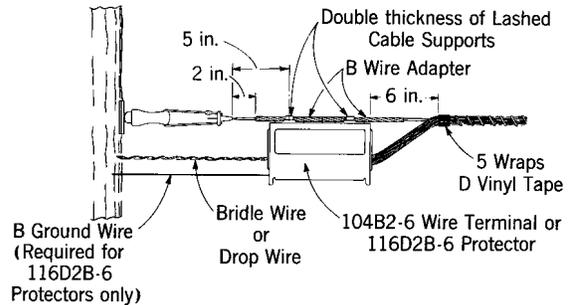

Fig. 7 - Multiple Line Wire Deadend
3.01 The 104B2-6 Wire Terminal or 116D2B-6 Protector can be placed on the insulated support wire. At deadend poles, this can be accomplished by using two B Wire Adapters and two lashed cable supports as shown in Fig. 7 and described in 3.03.
(1) Place the 3-wire set first, starting at the center which is marked by paint, as shown in Fig. 9. Place the 3-wire set (gauge by eye) on the support wire so that it is centered at the terminal clamp nearest the pole (see Fig. 7). Wrap the set so it is spiraled around the support wire from the center out to the ends in each direction at once using the thumb and forefinger of each hand. Be sure that the ends are snapped into place over the support wire.
(b) Start the second B Wire Adapter on the support wire with the paint mark about 3 inches from the end of the first B Wire Adapter so that it is centered at the far terminal clamp. (See Fig. 7.)